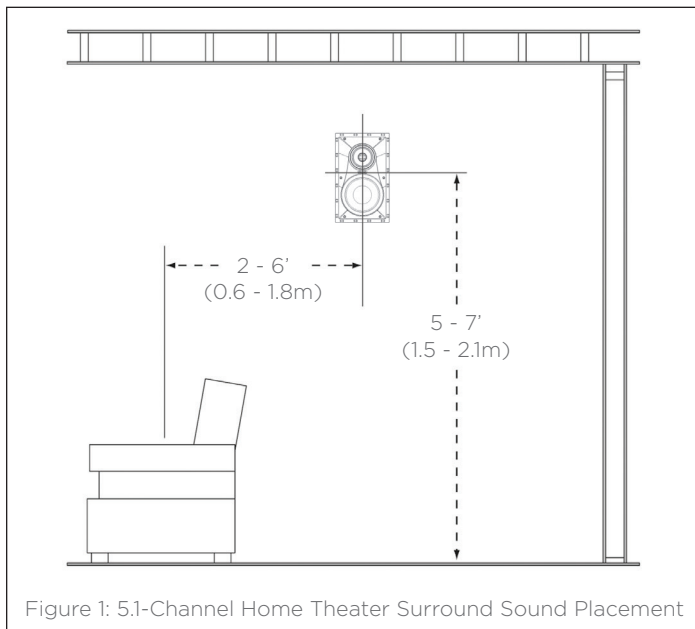

Figure 1: 5.1-Channel Home Theater Surround Sound Placement
Locate the surround channel speakers on the side walls 2 - 6 feet (0.6 - 1.8m) behind the listening position, 5 - 7 feet (1.5 - 2.1m) from the floor (see Figure 1).
1. Determine the location for the speaker (see Figures 1 and 2).